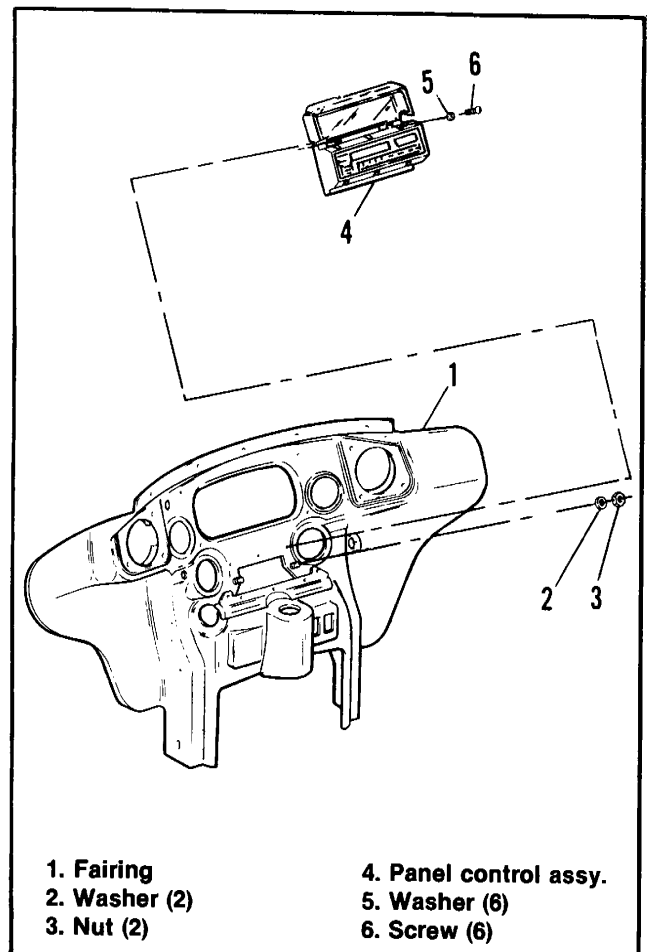
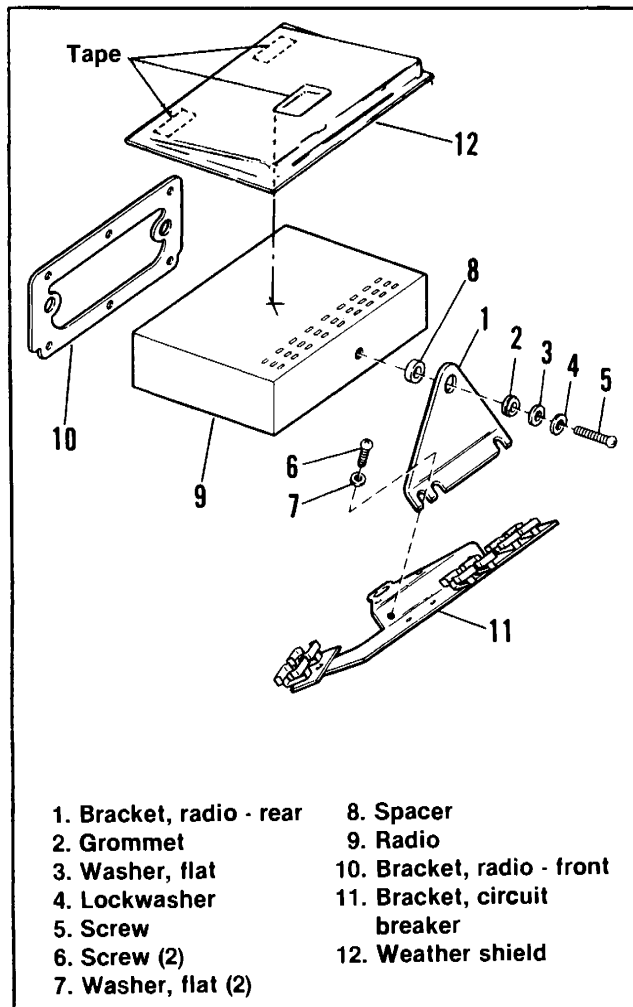
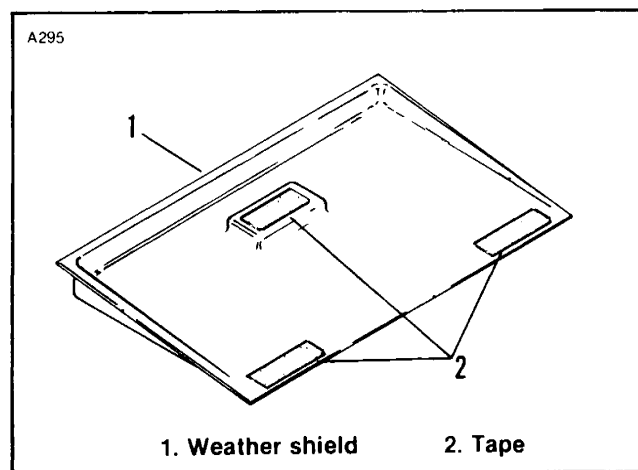

Figure 2-124. Front Radio Mounting — 1986-1987 FLHTC
Figure 2-125. Rear Radio Mounting — 1986-1987 FLHTC
Figure 2-126. Mounting Tape on Weather Shield
6. See Figure 2-124. Remove radio hood and control panel assembly (4).
7. Remove radio front stud nuts (3) and washers (2).
8. See Figure 2-125. Remove rear support screw (5) with lockwasher (4) and washer (3).
9. Loosen screws (6) and remove rear support (1).
10. Carefully remove radio chassis (9).
1. See Figure 2-125. Remove weather shield (12) from original radio chassis and remove old mounting tape. See Figure 2-126. Install new mounting tape Part No. 76301-86 in the three locations shown. Press weather shield into place on top of radio chassis.
2. See Figure 2-125. Place radio in position with front support studs extending through fairing. See Figure 2-124. Install washers (2) and nuts (3). Tighten nuts (3) finger tight only.
3. Position support (1) with slots around screws (6) and under washers (7). Loosely snug down screws (6).
4. Insert screw (5) through lockwasher (4), washer (3), grommet (2) and spacer (8). Thread and tighten screw (5) into threaded hole in back of radio (9). Tighten screws (6).
5. Join electrical connectors and connect speedometer cable. See Figure 2-124. Tighten nuts (3).
See Figure 2-124. Do not overtighten mounting screws (6). Overtightening mounting screws will distort rubber hood and prevent the hinged cover from operating properly.
7. Install radio hood and control panel assembly (4) using screws (6) and washers (5).